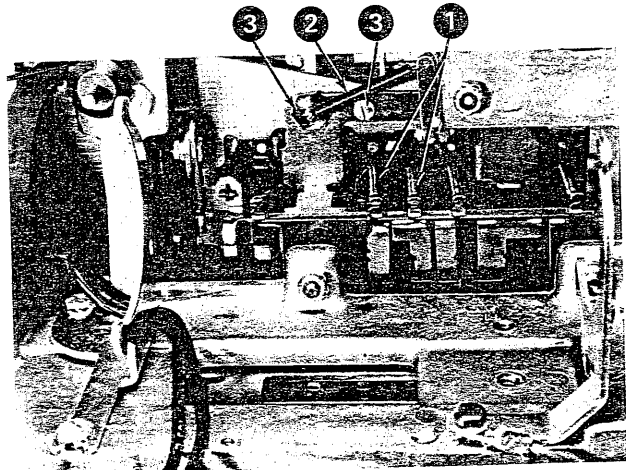

Figure 4-24. Rotate-Selection-Differential Removal (Steps 9-11)
9. Remove the rotate-latch springs (No. 1, Figure 4-24).
10. Remove the check-latch spring (No. 2, Figure 4-24).
11. Remove the guide-bracket mounting stud and screw (No. 3, Figure 4-24).